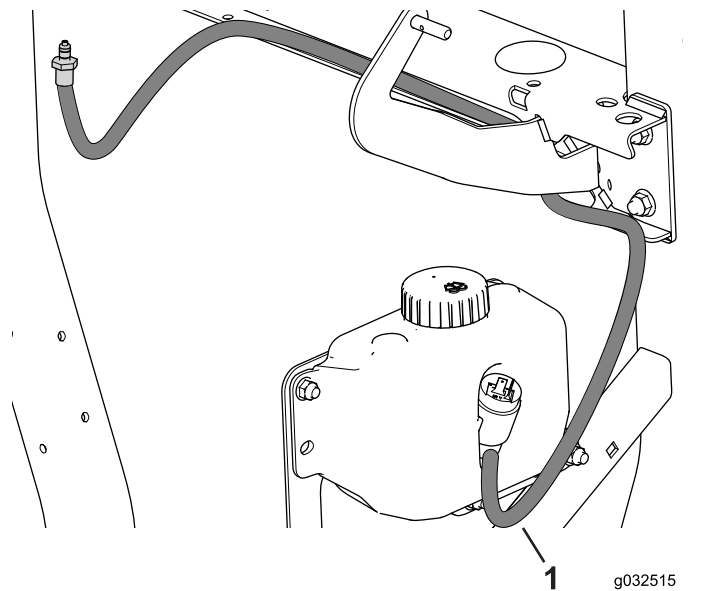

Figure 35
5. Connect the washer tube to the washer bottle and secure it to the frame with cable ties (Figure 35).